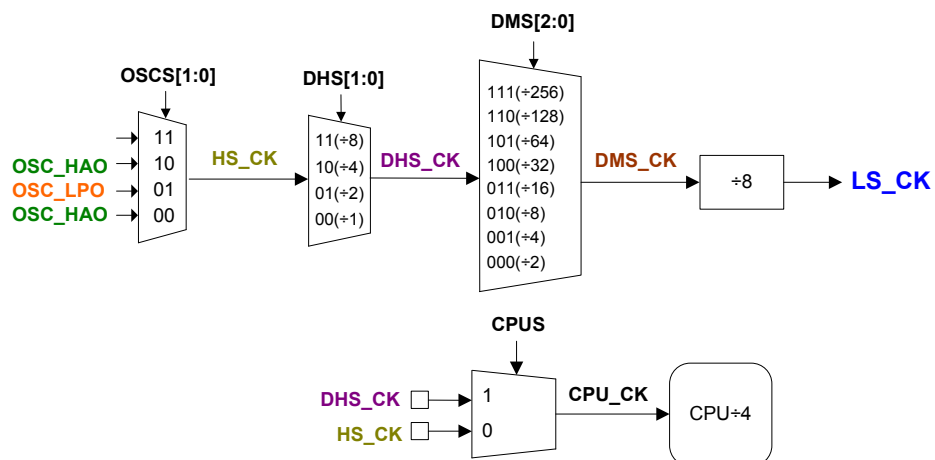

Fig 3-2 CPU and Peripheral Working Clock
- When CPU_CK frequency and instruction execute cycle, it is as in Fig 3-2. Table 3-2 lists the relation between CPU working frequency and instruction cycle briefly.